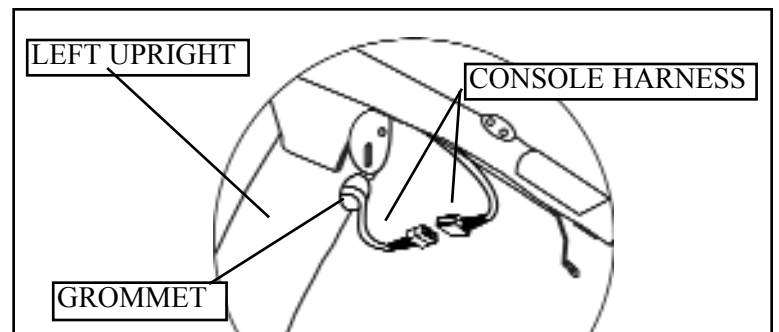

Figure 4a: Console Installation
5. Connect the Console Harness together as shown in Figure 4a.